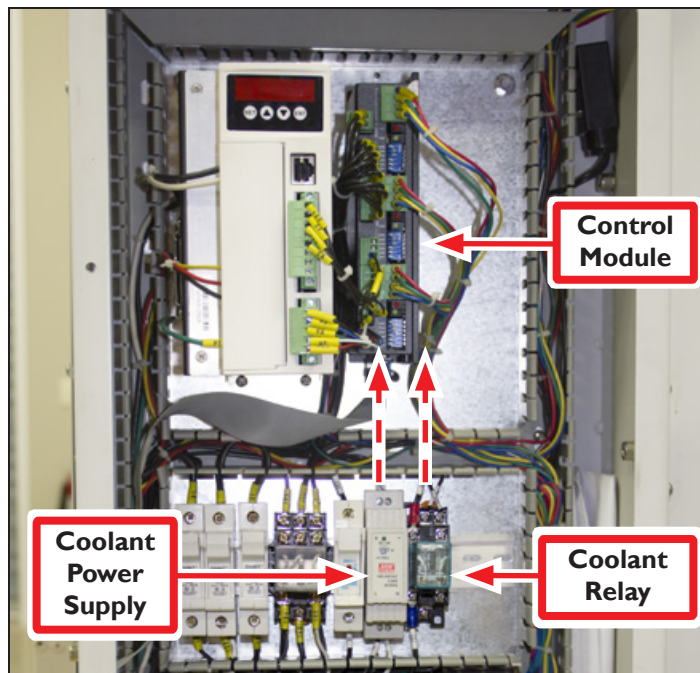

Figure 4
1. Identify loose wire 330 from Coolant Power Supply and loose wire 332 from Coolant Relay; route through wire trough to Control Module (see **Figure 4**).